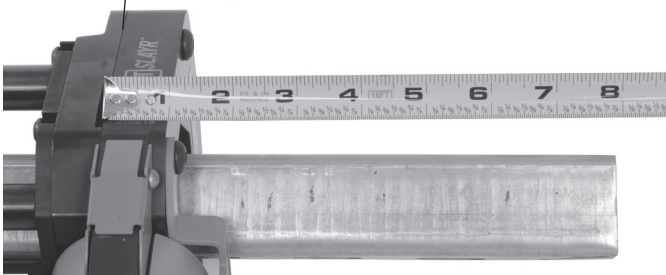

Figure 6A – Measuring Strut Length
- a. Use the Tape Measure Slot (located on the shear plane) (Figure 6A).